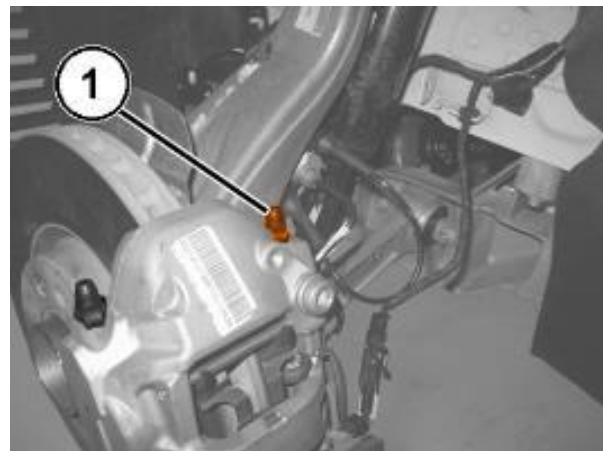

Figure 30 – Brake Bleeder Valve
71. Working at the right front caliper, position the brake fluid recovery hose to the INNER bleeder screw (1) and to the recovery container. Open the INNER bleeder screw (1) and without applying any pedal pressure on the system, allow a small amount of brake fluid to drain into the recovery container. Then tighten the bleeder screw and remove the recovery hose (Figure 30).
75. Working at the left front caliper, position the brake fluid recovery hose to the INNER bleeder screw (1) and to the recovery container. Open the bleeder screw and slowly press the brake pedal down fully three or more times, until there are no more air bubbles in the recovery hose. Then tighten the bleed valve to the prescribed torque of 10 N·m (89 In. lbs.) (Figure 30).